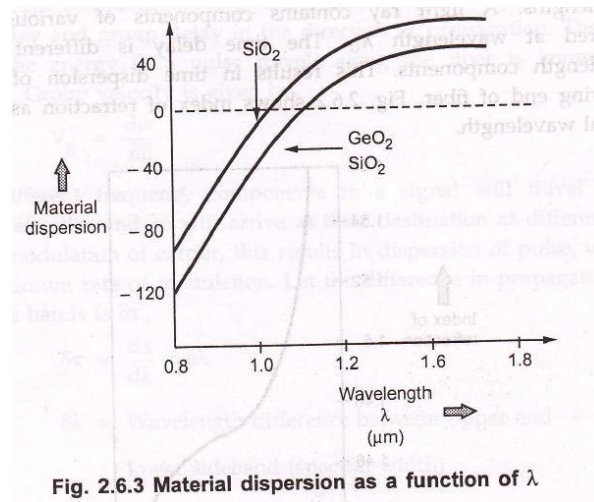

Fig. 2.6.3 Material dispersion as a function of  $\lambda$
- A plot of material dispersion and wavelength is shown in Fig. 2.6.3